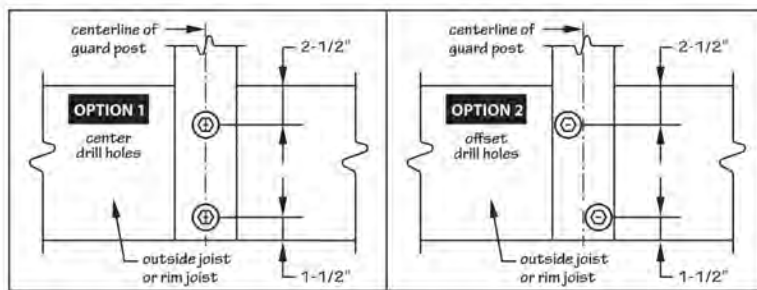

Fig 5
3. Depending on the mounting hardware chosen, drill (2) appropriately sized holes through the base of each post. Use the following chart (Fig 5 & 6)